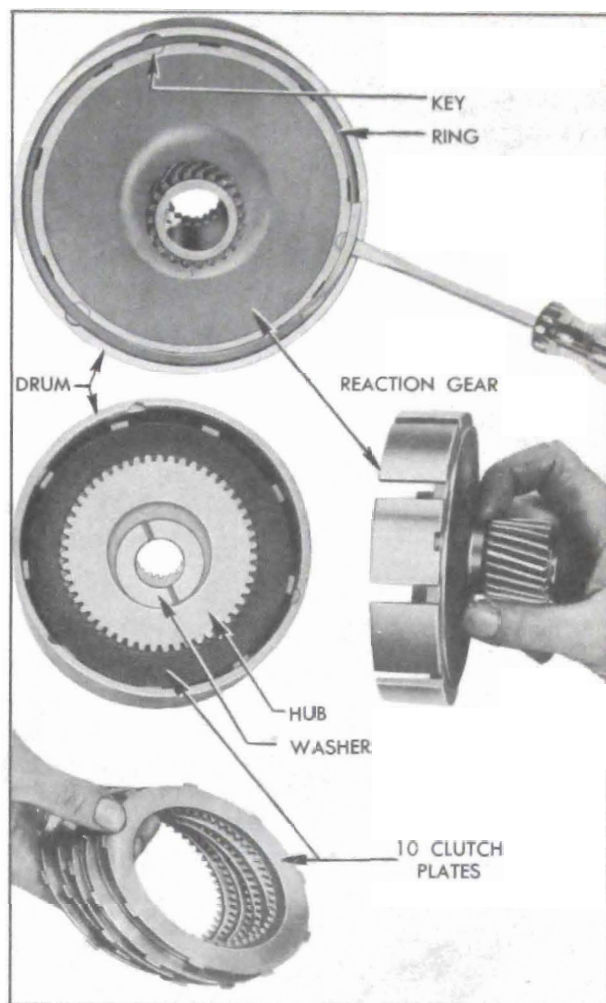

Figure 5-67—Removal of Reaction Gear, Hub, and Plates
1. Remove reaction gear flange retainer ring with screwdriver and remove the 3 flange driving keys with pointed tool. See figure 5-67.
2. Remove the low range reaction gear, thrust washer, clutch hub, and 10 clutch plates from drum. See figure 5-67.